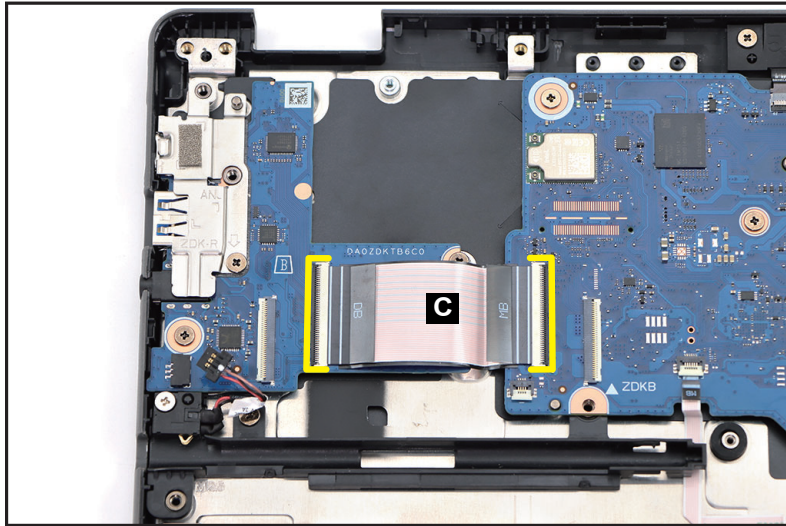

Figure 1-29. USB Board Removal
3. Disconnect the 45-pin I/O board (H) FFC (C) from the USB board and mainboard connectors (Figure 1-29). Then remove the FFC.